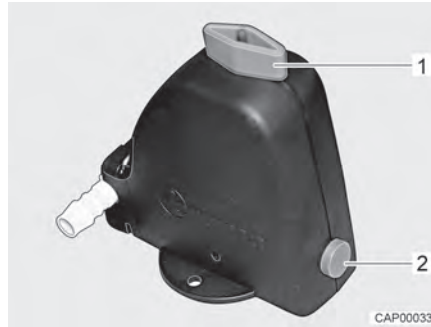
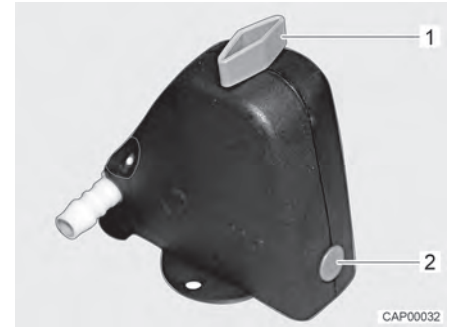

Fig. 132 Safety/drainage valve open
Fig. 133 Safety/drainage valve closed
- Close the safety/drainage valve. Turn the knob (Fig. 132,1) perpendicular to the safety/drainage valve and push the push button (Fig. 132,2) in. The closed safety/drainage valve is shown in Fig. 133. If the temperature is below 6 °C, the safety/drainage valve cannot be closed.